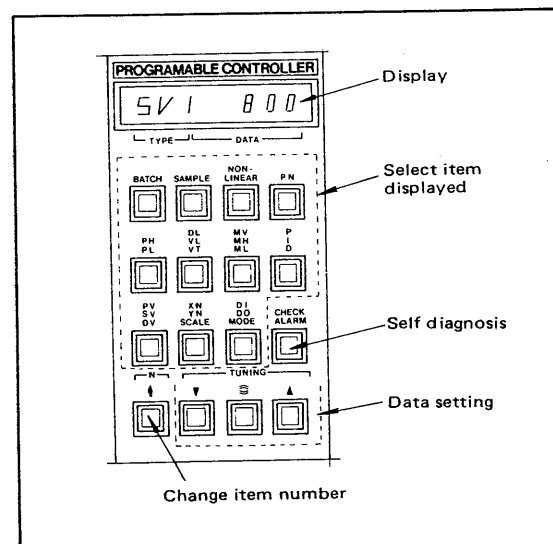

Figure 5-1-6. Functions of Keyboard.
### Keyboard operation (See Figure 5-1-6.)
- ① Item displayed: Use the eleven item (type) keys (Figure 5-1-6) to select this.
- ② Selected item number: Change using key.
③ Data (value) setting: Set data values using , and keys.
(6) Initial value